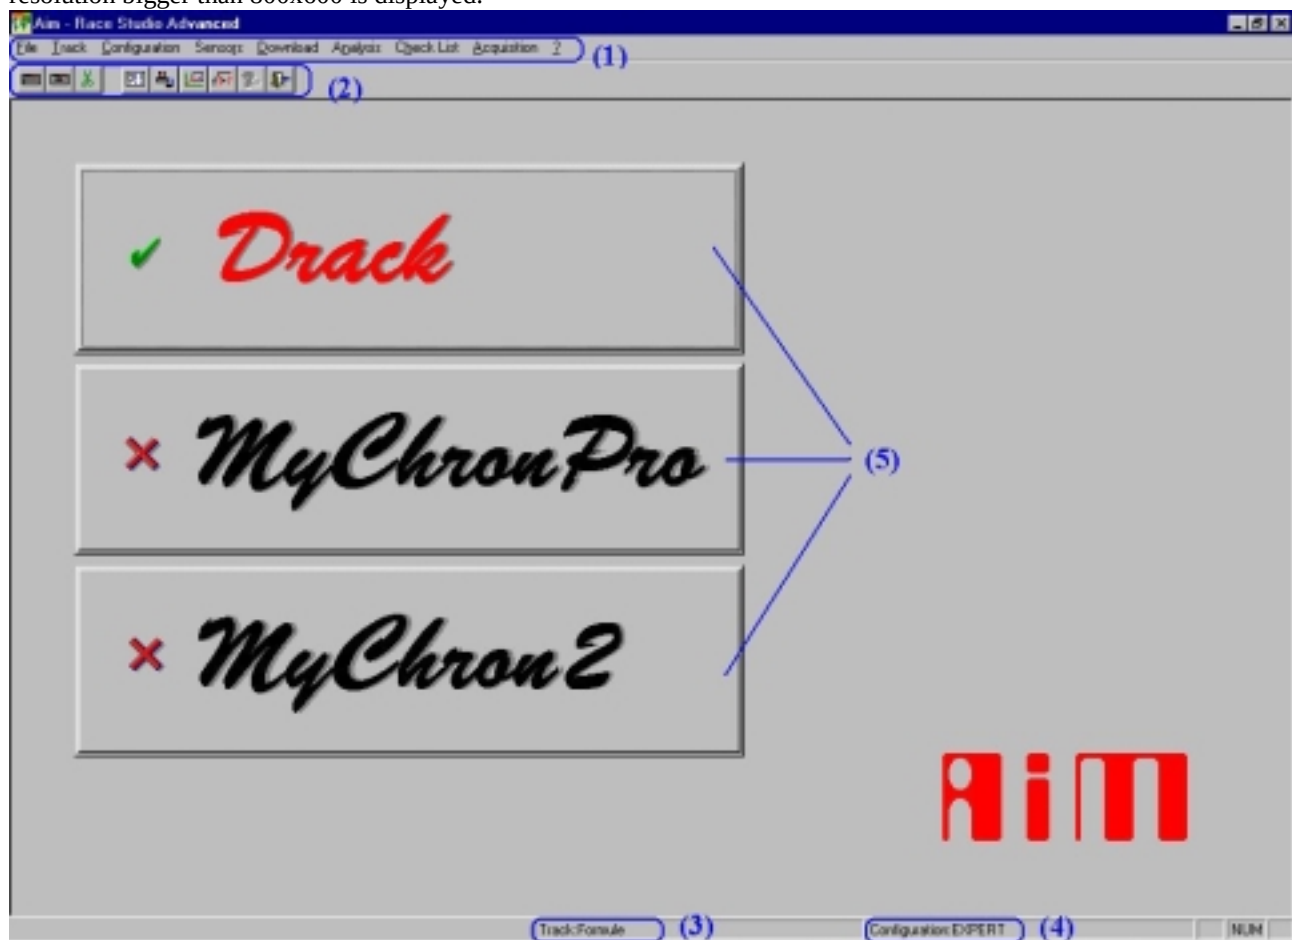

Fig. 2.2 – Main window
At any time there is an active configuration that is shown in status bar of the application see Fig. 2.2. The status bar is placed at the bottom of the screen.
The main window is the first window shown when the program is run. In Fig. 2.2 the default main window for a video resolution bigger than 800x600 is displayed.
- (1) – The menu includes the main commands of the program.
- (2) – The toolbar of the window includes some shortcuts to the most important functions.
- (3) – The name of the active Track shown on the status bar.
- (4) – The name of the active Configuration shown on the status bar.
- (5) – The three “big” buttons for the selection of the connected device, in Fig. 2.2 the Drack is the selected device.
There are two configurations in the Drack system: one loaded on the personal computer and another one into the data logger. If on the Personal Computer a single configuration is used the two configurations have to be always the same. If multiple configurations are used it is very important that, when the loaded configuration on the personal computer is sent to the data logger, “Configuration-Transmission to the logger ” command, it is the one you would like to send. Check its name on the status bar of the application (see Fig. 2.2).